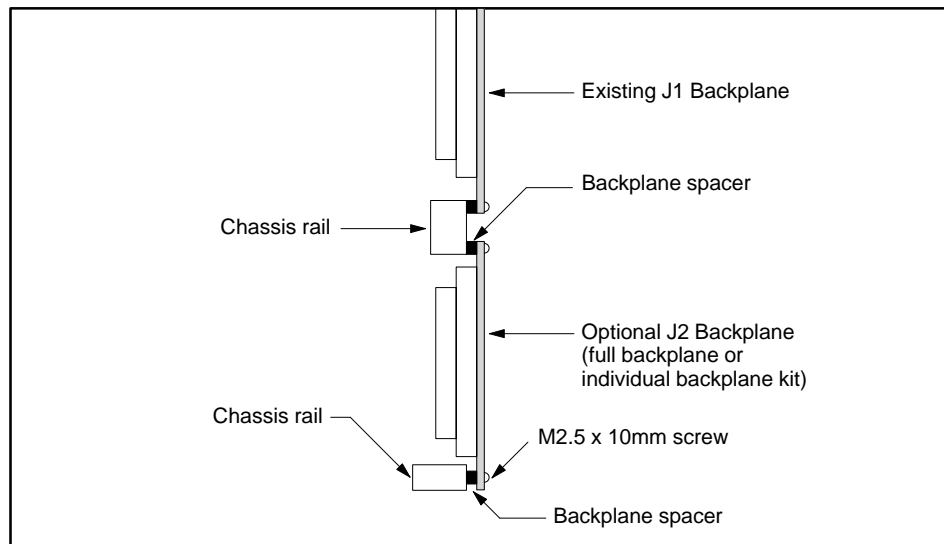

Figure 4-32 Installing J2 Backplane
4. Mount the backplane with the spacers between the chassis rails and the backplane, using the M2.5 x 10mm screws, as shown in Figure 4-32.